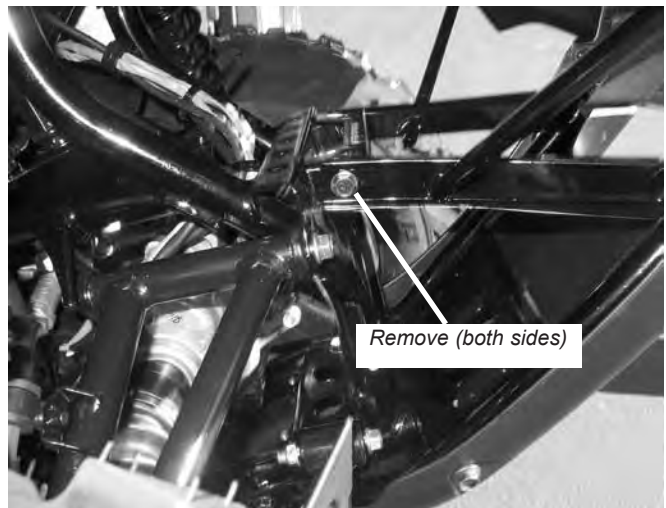

Figure 7 Remove Frame Bumper Bolts
- Remove the two middle bumper bolts that attach the bumper to the middle of the vehicle frame, figure 7. Remove the front vehicle bumper at this time.